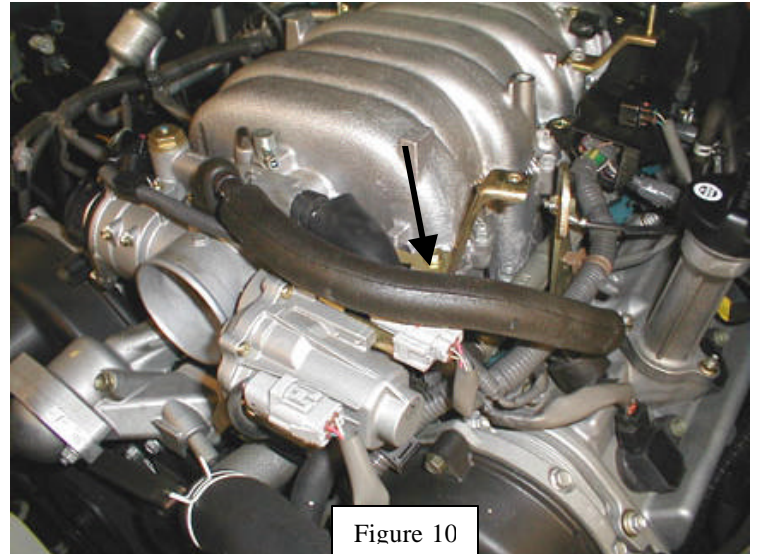

Figure 10
18. Remove PCV valve hose from throttle body and cam cover (Figure 10).